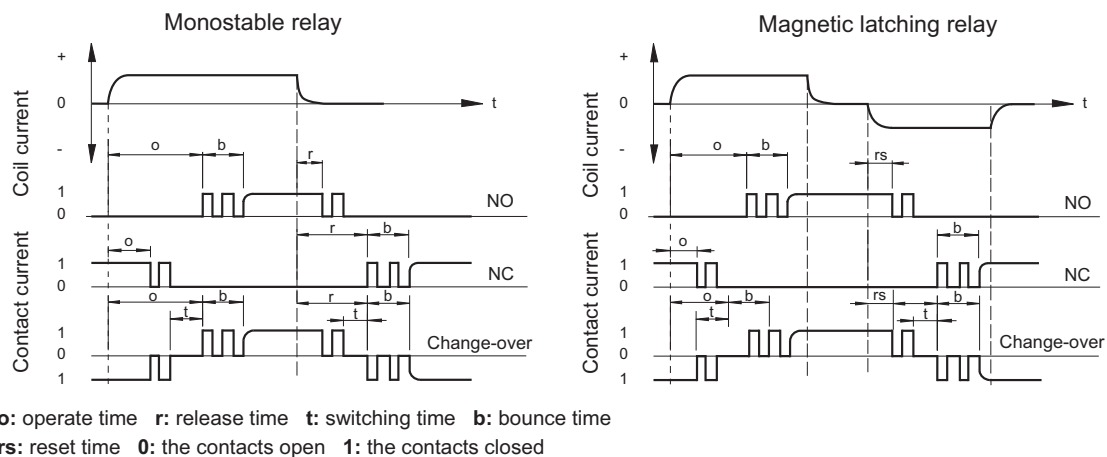

Figure 3
- 2.3 Operate time** refers to, with the Monostable relay in the released state, The time from the application of the specified coil voltage to the contact circuit switching its state. It does not include any bounce time, and expressed in "ms". Seen in figure 3.
- 2.5 Reset time** . For the bi-stable relays in action state, the time from applying the specified coil voltage to the last switching contact circuit state, excluding the bounce back time. Seen in figure 3.